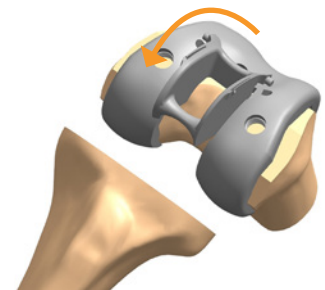

Figure 44
11. Insert the arms of the femoral cam module into the anterior aspect of the femoral trial box and rotate posteriorly until seated (Figure 44).